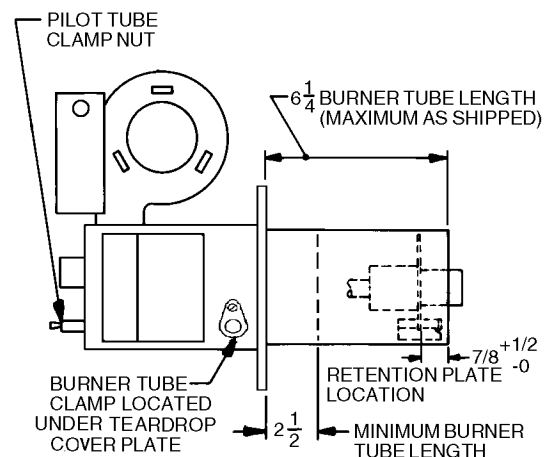

FIGURE 1 Burner Tube Adjustment
□ Burners are shipped with the burner tube at its fully extended length of 6 1/4 inches. To reduce the tube length, complete the following steps (see Figure 1):
3. Turn the Pilot Tube Clamp Nut (see Figure 1) counterclockwise, to loosen the Pilot Tube.